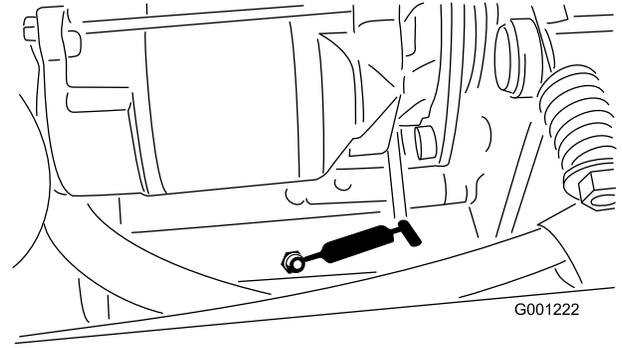

Figure 40
- Rear PTO bearing (Figure 40)
- PTO tension pivot (Figure 40)